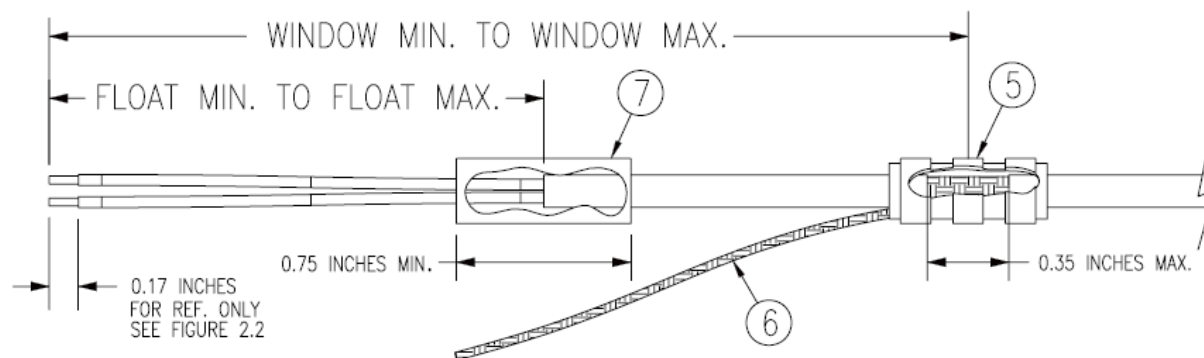

Figure B-16. Standard Shield Termination
1. At one end of a shielded cable (item 4) measure a distance between “Window Min” to “Window Max” (Table B-11) and cut a window (max size 0.35”) in the jacket to expose the shield (Figure B-16). Use caution when cutting the jacket to avoid damaging the individual braids of the shield. When dealing with a densely populated connector with many cables, it may prove beneficial to stagger the windows throughout the “Window Min” to “Window Max” range. If staggering is not needed the “Ideal Window” length is recommended.
2. Connect a Flat Braid (item 6) to the shield exposed through the window of the prepared cable assembly (item 4) from step 1. The Flat Braid should go out the front of the termination towards the connector. It is not permitted to exit the rear of the termination and loop back towards the connector (Figure B-16). Make this connection using an approved shield termination technique.
3. At the same end of the shielded cable (item 4) and ahead of the previous shield termination, strip back “Float Min” to “Float Max” (Table B-11) length of jacket and shield to expose the insulated center conductors (Figure B-16). The “Ideal Float” length may be best to build optimally.